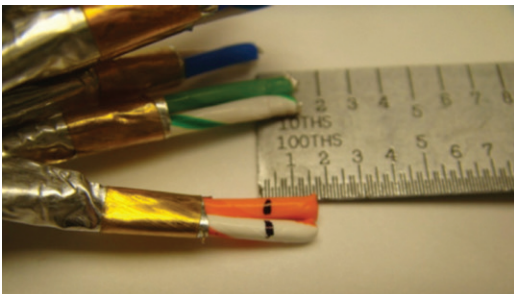

Figure 34: Marking each conductor
10. Measure and mark each conductor 0.15 inch from the end (Figure 34).